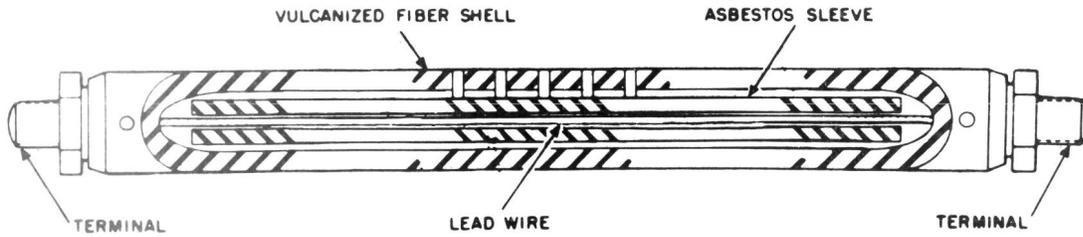

Fig. 42—11-Type Station Line Fuse
5.02 The 106C protector consists of a base of nonconductive material containing five binding posts, two 11C fuses (Fig. 42), and two 2A1A protector units.